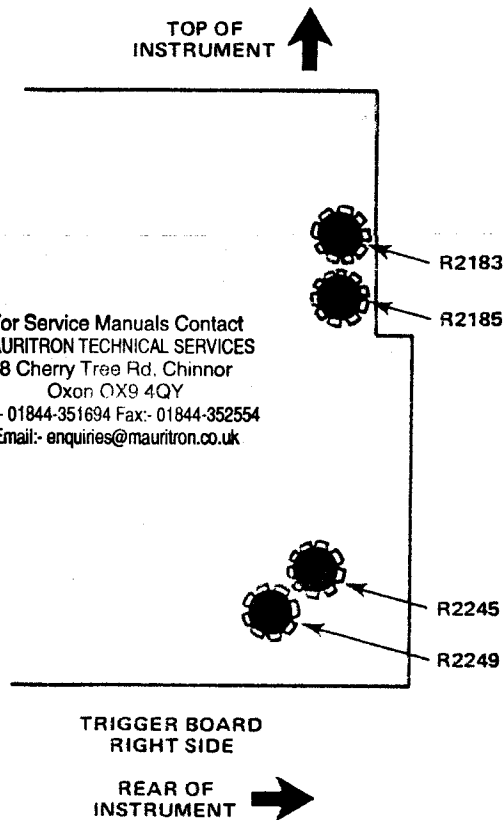

Figure 5-20. Trigger hysteresis and slope centering adjustment locations.
(26) Set CH 1 VOLTS/DIV to .5.
(27) Remove the 10X attenuator from the CH 1 input.
(28) Adjust R4106 for the best front corner of the waveform.
(29) Disconnect the generator.
m. Trigger Hysteresis and Slope Centering (Figure 5-20).
(1) Set controls as follows: